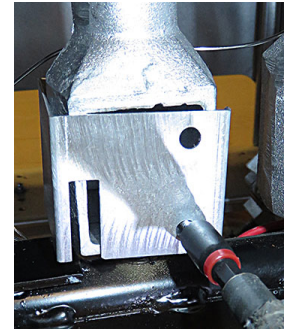
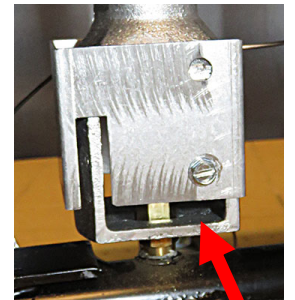

Figure 5
Figure 6
9. Attach the shutters as shown using two of the long screws (see Figure 5). Adjust so that the shutter is approximately $\frac{1}{4}$ " from the bottom of the burner (see Figure 6). Additional adjustments may be necessary after ignition of the fryer to produce a good flame; prevent howling and extinction of the flame or flashback.